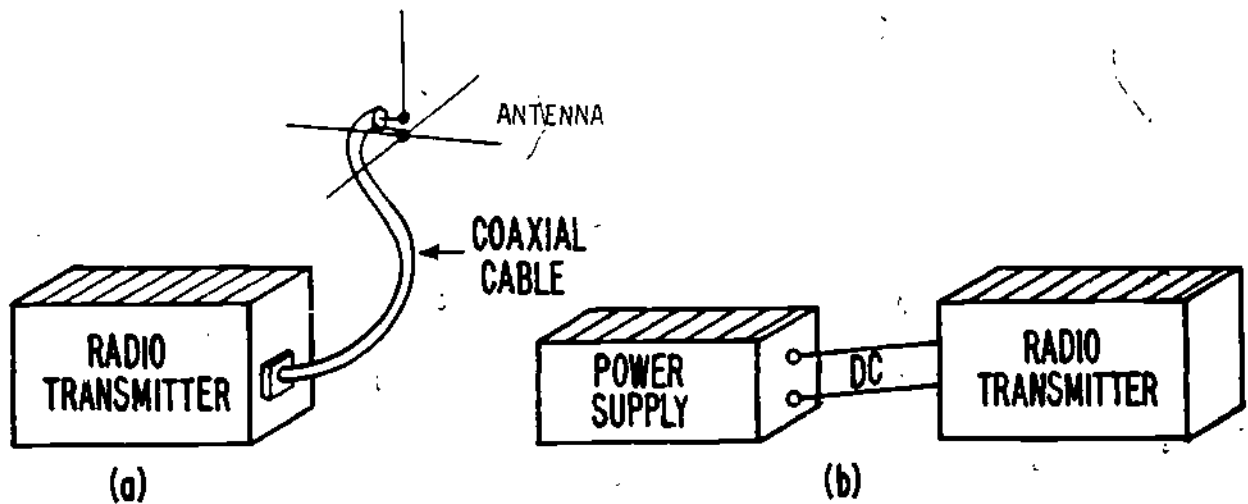

Figure 1
1: Figure 1(b), a power supply is shown connected to one of its normal loads which is a radio transmitter. In order to test the power supply, you need to operate it. However, the transmitter has fragile semiconductor devices which may be damaged while you are troubleshooting the power supply. You can see from both examples that there is a need both to test equipments under load conditions and to isolate them from their normal loads.
1. Many times in your electronics career you will have to test a piece of equipment without having it connected to its normal load device. Figure 1 shows two common situations in which this happens.
In Figure 1(a), a radio transmitter is shown connected to its normal load which is an antenna. In order to test the transmitter, you would need to "key" it (make it transmit). However, when you key the transmitter, radio